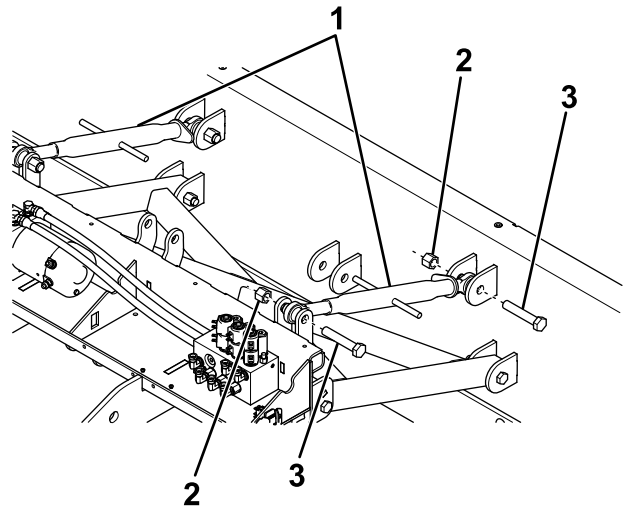

**Figure 5**
1. Loosely attach the flat end of the lift arm to the lower brackets on the center blade using 2 bolts (5/8 x 4 inches) and locknuts (Figure 5).
2. Loosely attach the angled end of the lift arm to the lower brackets on the coupler assembly using 2 bolts (5/8 x 4 inches) and locknuts (Figure 5).